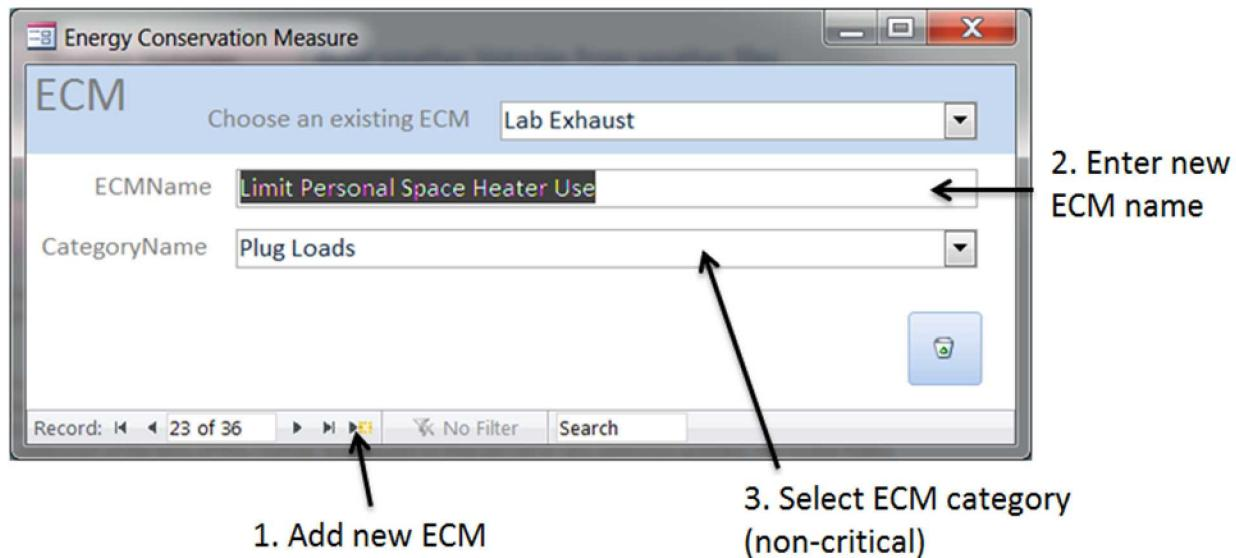
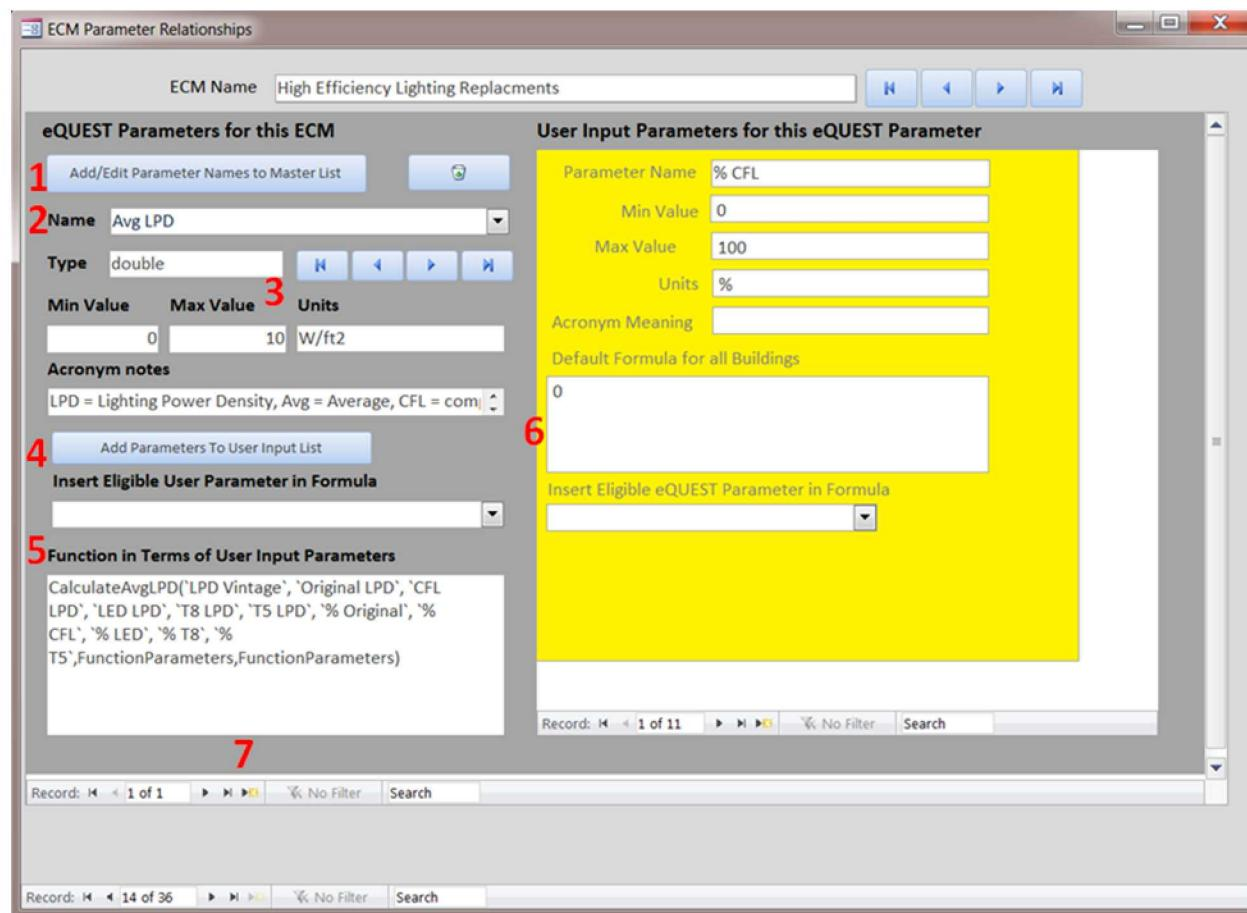
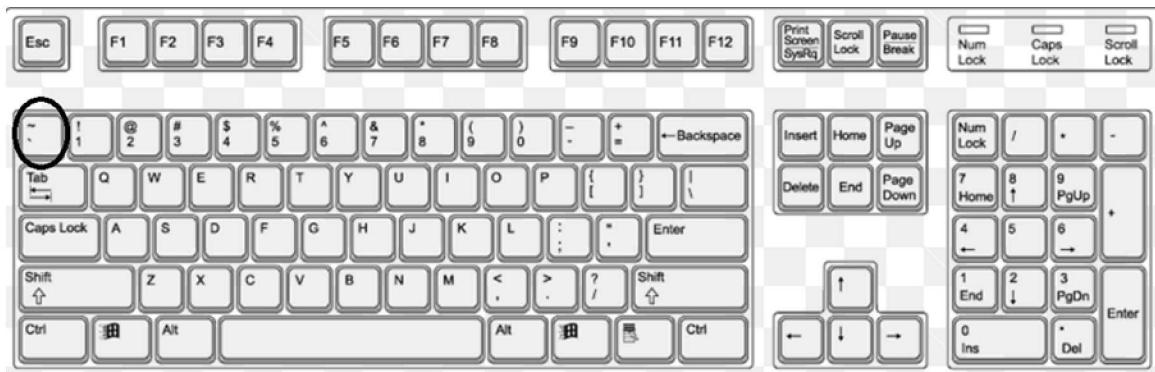
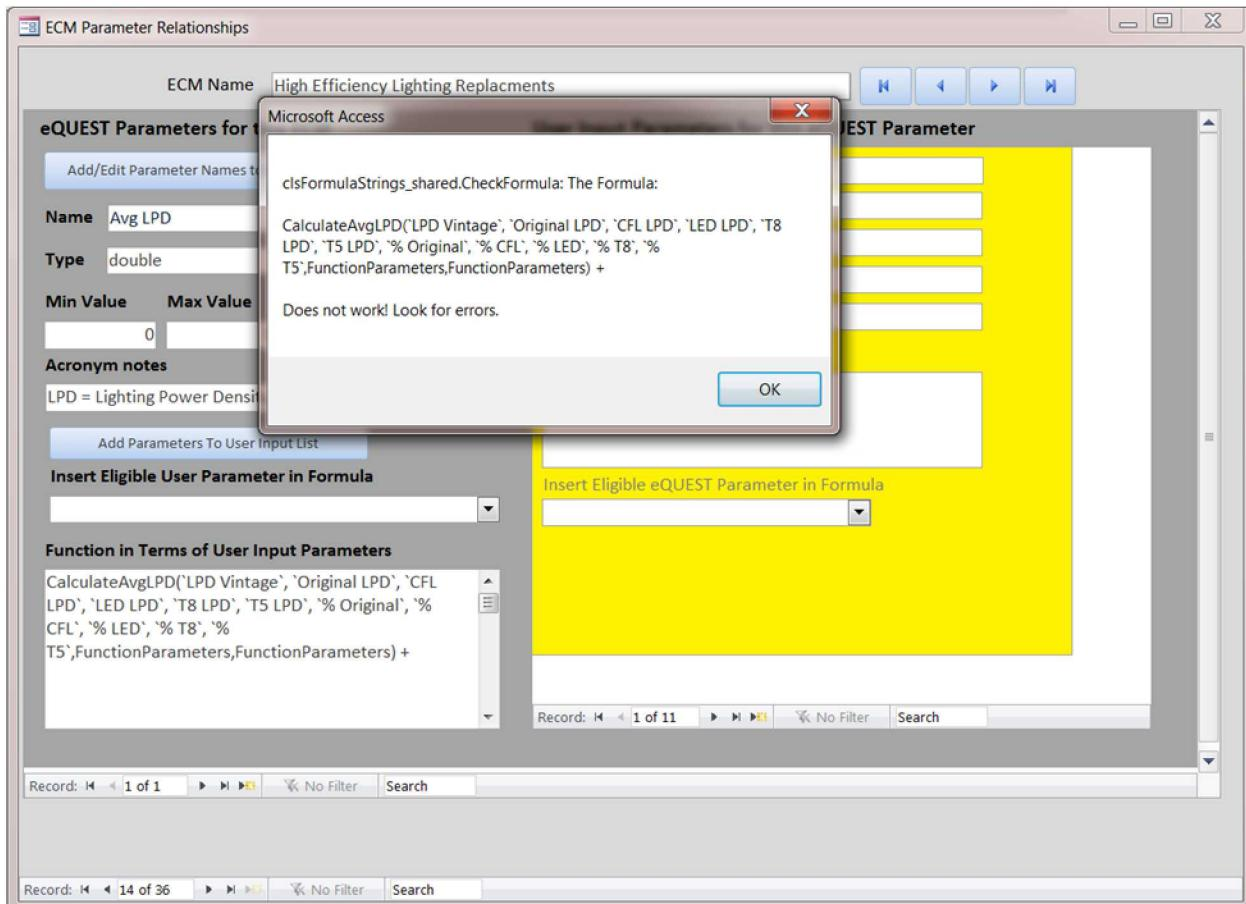

Figure 37. ECM form
Figure 38. ECM parameters form
Figure 42. Character to delimit parameter names
Figure 43. Inconsistent formula
The next step is to create an empty ECM by pressing the “ECMs” button from the main form shown in Figure 28. This opens the form seen in Figure 37. Once an ECM has been added, it can be accessed through the “ECM Parameters” button, which opens the form seen in Figure 38. After navigating to the ECM just created, the ECM’s content is created in this form using seven steps.
5. Enter a function of the user input parameters that determines the current eQUEST parameter. This can be a call to a VBA function or an arithmetic combination of the user input parameters. Parameter names must be enclosed with the ““” character (Figure 42). Selecting the “Insert Eligible User Parameter in Formula” combo box gives the list of parameters that have been added in step 4 and that enters one of the names in the “Function In Terms of User Input Parameters” text box automatically. At this point the user must understand that there is a special VBA subroutine that is executed every time the “Function In Terms of User Input Parameters” text box is exited. This subroutine verifies that the text box input correctly evaluates to a real number and adds records to relate all of the user input parameters contained in the text box input. Because of this subroutine, once input has been started, the user must keep that formula consistent every time that the text box is exited. Otherwise an error will result as seen in Figure 43 where a “+” has been placed at the end of the formula without anything on its right hand side. If several parameter names need to be added, it is best to add them one by one while placing “+” between them so that a consistent formula is generated. The user can then update the formula to the desired form afterward. Once a valid function has been entered, the User Input Parameters in the function are available in the yellow portion of the ECM Parameter Relationships form (Figure 38).